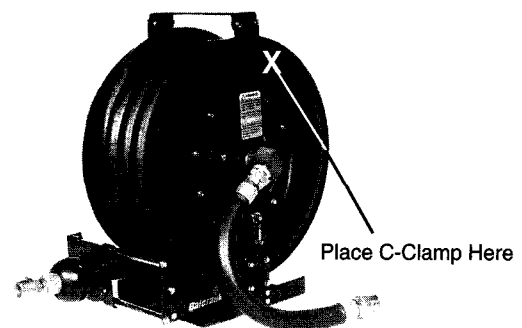

Figure 12
3. Secure spool from accidental rotation by placing a C-Clamp onto the spool. See figure 12 for proper placement of C-Clamp. This will keep the spool from rotating while installing the new service hose
4. Remove screws (11, 12 & 16) from base (40), hub (29) and top tie bar (19).
5. Unclamp the reel from the workbench and lay it on a flat work surface so the spring case (21) is facing up.
6. Twist the complete spring case assembly to the left or right and once the upright (15) is clear of the base (40) and the top tie bar (19) lift to remove the assembly.
NOTE: Be sure that both bolts (24) and safety cotter pins (20) are still in place on each side of the case before lifting. (see figure 12 for placement of cotter pins)